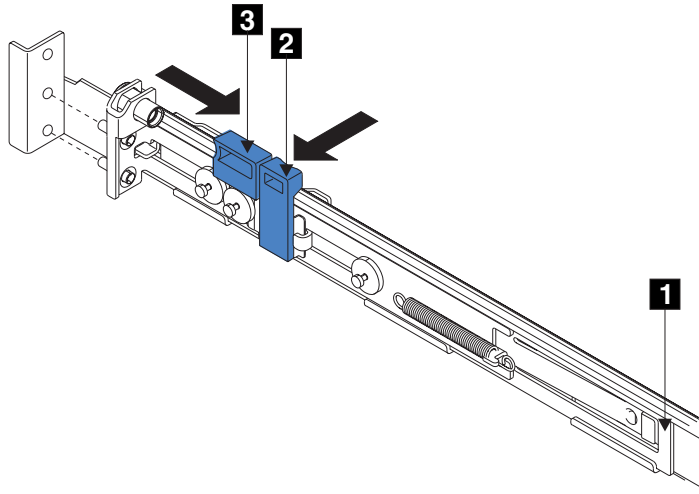

Figure 76. Opening the back latch-lock carrier assembly
5. Push the back rail bracket **1** (Figure 76) toward the front of the rail until it stops. The rail is now at its shortest adjustment.